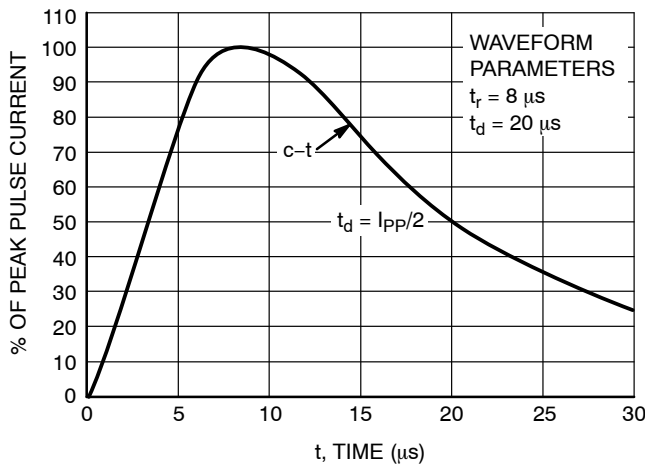

Figure 1. Pulse Waveform, $8 \times 20 \mu\text{s}$
1. Non-repetitive current pulse per Figure 1.
- Pulse waveform per Figure 1.